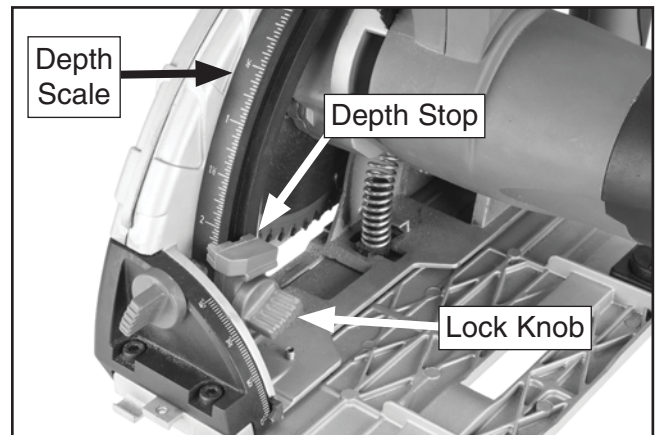

Figure 15. Depth-setting components.
1. Loosen the lock knob and adjust the depth stop along the scale to the maximum depth desired for the cut (see **Figure 15**).